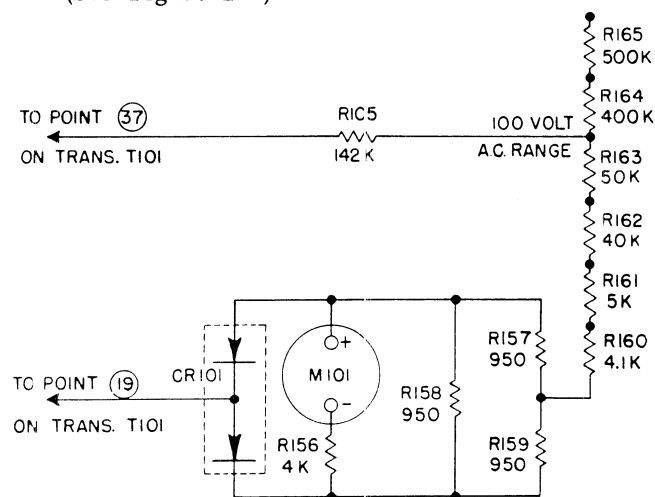

Figure 2-4. Simplified Line Voltage Test Circuit
4. LINE VOLTAGE TEST. (See Figure 2-4)